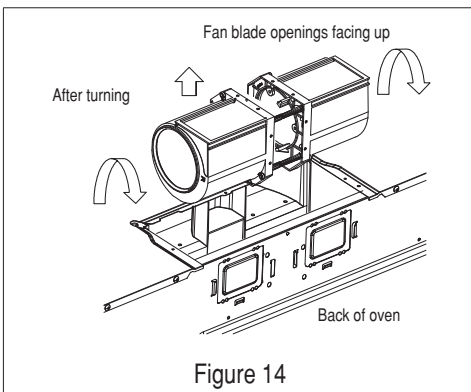

Figure 14
- Turn the blower unit so that the fan blade openings are facing upward. See Figure 14.